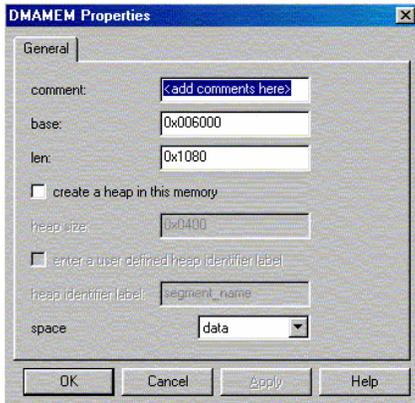

Figure 5 DMAMEM Section Defined
- Right click on DMAMEM and set properties as shown in Figure 5. Notice the *len* property is 0x1080 (4224d). Since the DMAMEM section is 4224 words long, the buffer size can be up to 4224 words long.